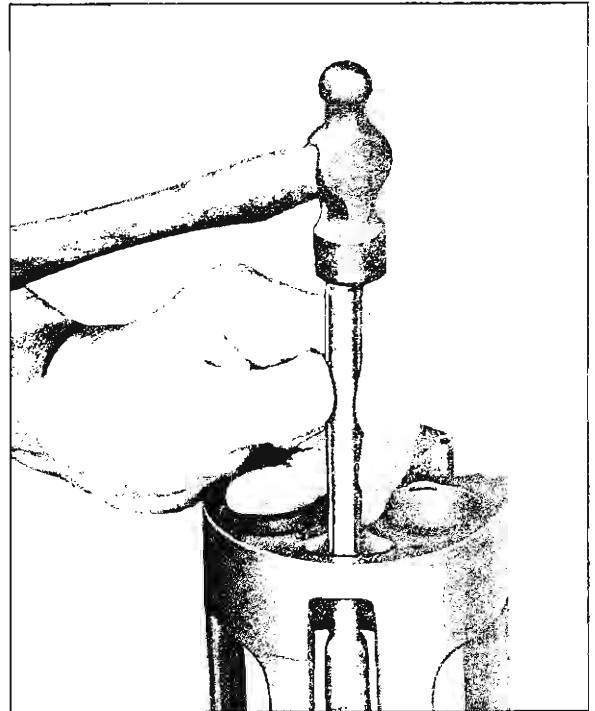

Fig. 31—Unseating Discharge Crossover Tube
2. Use J-9492 to drive discharge tube out of cylinder (fig. 31). (Drive toward REAR of cylinder.)